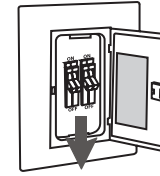

FIGURE 5
1. Disconnect power at the breaker to the fan location. A licensed electrician must install the fan (Fig. 5).